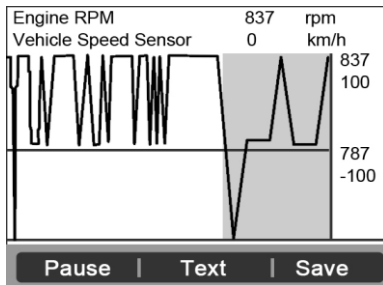

Figure 5.31
- 5) Press the **FUNCTION** button corresponding to **Merge Graph**, the above two graphs will merge together as Figure 5.31.